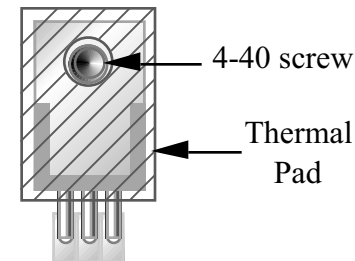

Figure 6-32
- Place self-adhesive thermal pads on top of Q7 and Q8 as shown in Figure 6-32, with the hole in the pad centered over the hole in the transistor tab. *The adhesive side must be in contact with the transistor.*